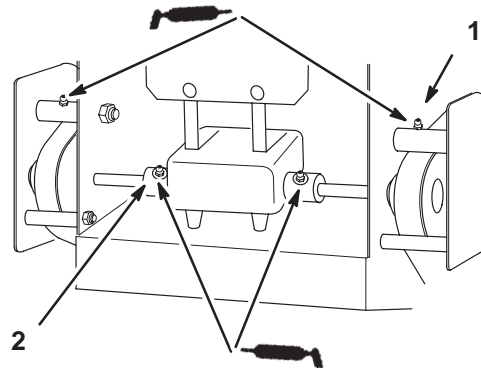

Figure 38
2. Lubricate the transmission couplers every 50 hours and idler arm pivots every 8 hours (Fig 38).